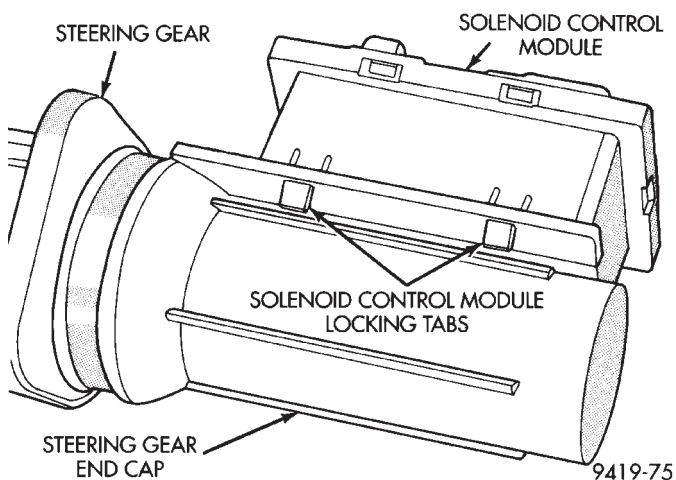
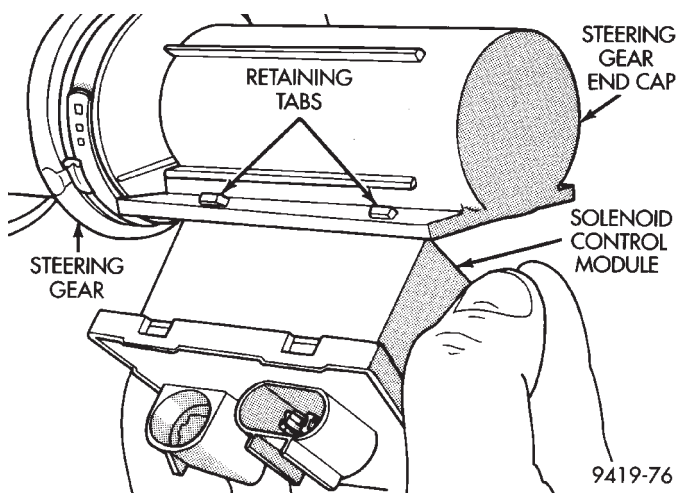

Fig. 4 Solenoid Control Module To End Cap Locking Tabs
Fig. 5 Solenoid Control Module Mounting To End Cap
(2) Depress the 2 locking tabs (Fig. 4) on the bottom side of the solenoid control module, unlocking the control module from steering gear end cap.
(3) Rotate the solenoid control module upward, until retaining tabs (Fig. 5) can be removed from the steering gear end cap. Then remove the control module from the steering gear.
(1) Insert tabs on solenoid control module (Fig. 5) into steering gear end cap. Then rotate module downward until locking tabs on module (Fig. 4) are engaged with steering gear end cap.